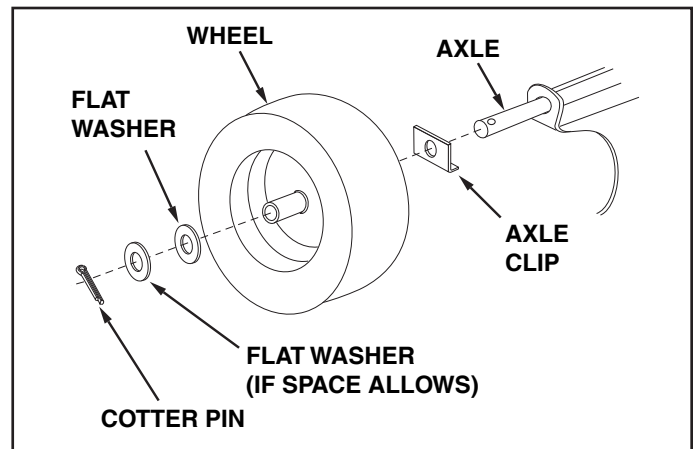

FIGURE 3
- Assemble an axle clip, wheel (valve stem facing out) washer, and a second washer (if space allows) onto the axle as shown in figure 3. Secure the wheel in place using a cotter pin. Repeat for other wheel.